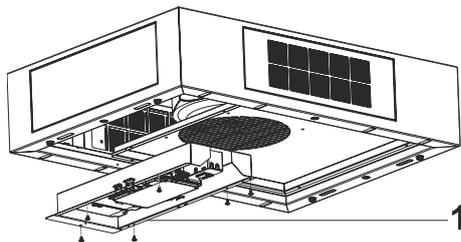

Fig. 16
6. Install the electronic circuit box with 6 screws on the motor box (Fig. 16).